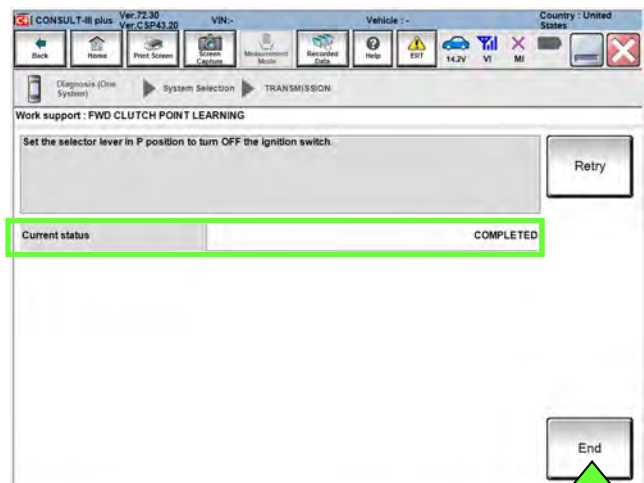

Figure 45
56. When the screen in Figure 45 is displayed, shift the CVT into park (P), and then select **End**.